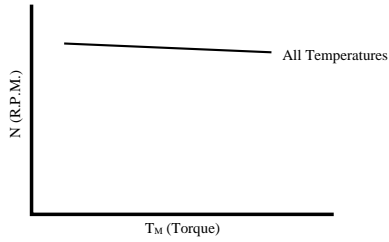

Fig. 3. r_1 Temperature Characteristics = R_a Temperature Characteristics
R_a is the copper coiled resistor of the motor and has the temperature characteristics of + 3,900r.p.m/°C, Therefore, it is necessary to set the value of r_1 so that the relationship in the expression (7) will be satisfied at the minimum working temperature. The diffusion resistance r_3/r_2 in the IC has the flat temperature characteristics, and if the temperature characteristics of r_1 is adjusted to that of R_a , + 3900 r.p.m/°C, the value of the second term ($r_1 r_2 / r_3 - R_a$) of the expressions (4) and (5) shows the flat temperature characteristics and the torque characteristics of the motor speed becomes constant without depending on a temperature. Fig. 2 and Fig. 3 show this relationship.